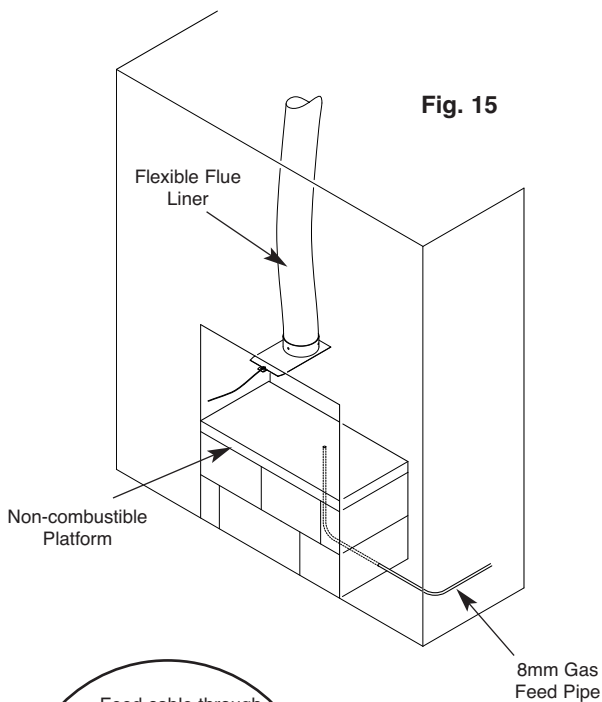

Fig. 15
2. Construct a suitable non-combustible platform large enough to sit the fire box on ensuring the top surface is level with the mark on the wall. If the depth of chimney breast does not facilitate a rear gas connection, allowance must be made for the 8mm gas feed pipe to enter the base of the fire box through the platform (Fig. 15).